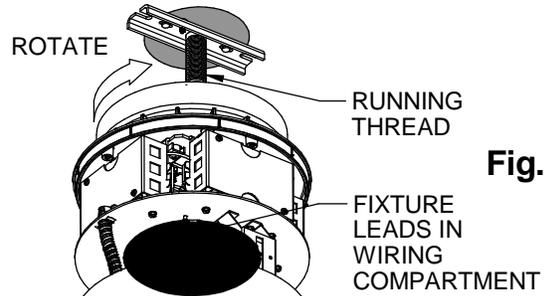
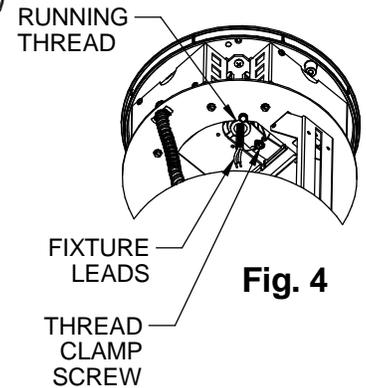

Fig. 3
Fig. 4
- Carefully flip the cylinder upright and lift the cylinder up to the mounting channel assembly. Feed the fixture leads through the threaded hole in the center of the fixture top assembly. Engage the running thread, and rotate the assembly a few times, being sure that the fixture *rotates freely and is not cross-threading* (Fig. 3). Pull the fixture leads out through the wiring compartment opening. Make sure they hang freely (don't rotate or twist), and thread the fixture onto the running thread until the canopy contacts the ceiling. Tighten the thread clamp screw to lock the fixture assembly onto the running thread. (Fig. 4)
Loosen the thread clamp screw to unlock the fixture assembly from the running threads. Ensure that the fixture is threaded onto the running thread such that the canopy is very close to the ceiling. Find the wallwash kicker and face it towards the wall by rotating the cylinder LESS THAN one full turn on the running threads. Once the wallwash kicker is on the opposite side of the fixture from the wall, tighten the thread clamp screw to lock the fixture assembly onto the running threads. (Fig. 4)